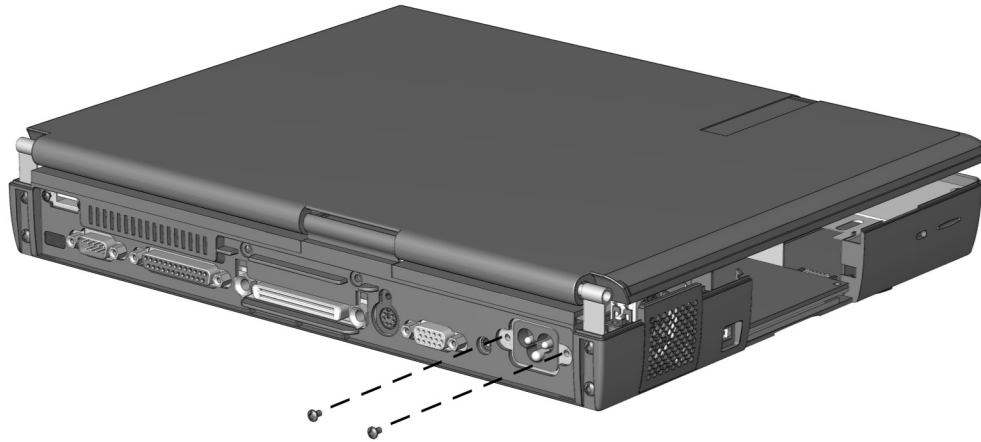

Figure 5-35. *Removing the Power Supply Screws.*
7. Remove the two screws that secure the power supply to the I/O bracket (Figure 5-35).